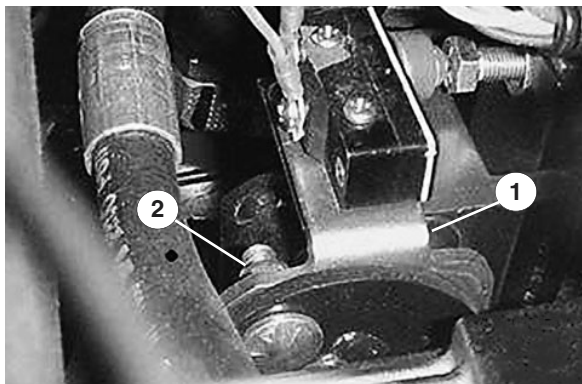

Figure 33
4. Loosen the two locknuts securing the pump plate so the plate can move freely (Fig. 33).
5. Start the engine and rotate pump plate (Fig. 33) in either direction until the wheel ceases rotation.
6. Stop the engine and tighten the locknuts to secure the pump plate (Fig. 33).